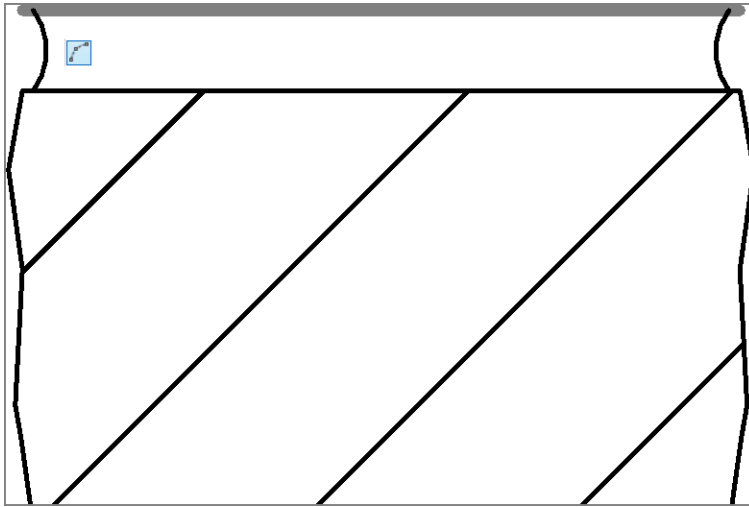

FIGURE 12.20: Adding the mortar joint
3. Draw two arcs to the left and right of the top of the brick, as shown in Figure 12.20.